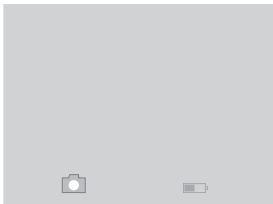

FIGURE 3.10. CAMERA ICON ON SCREEN
1. With no menu visible press and hold the “Enter” button until a camera icon appears on screen. (Figure 3.10.)